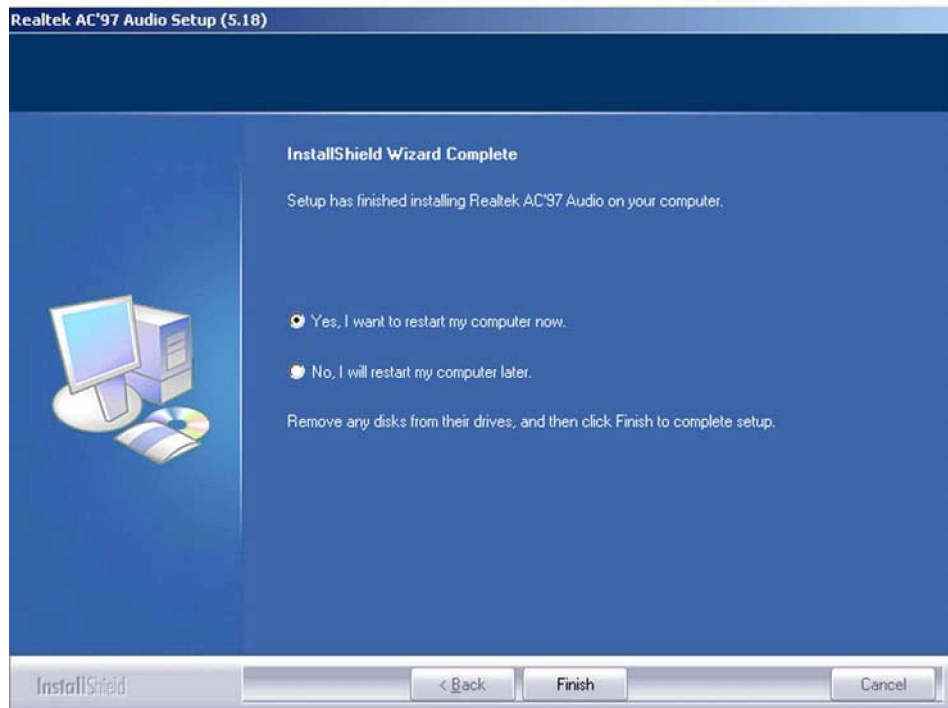

Figure 6-12: Audio Driver Installation Complete
Step 7: After the driver installation process is complete, a confirmation screen shown in **Figure 6-12** appears
- Step 8:** The confirmation screen shown in **Figure 6-12** allows the computer to be restarted immediately after the installation is complete or at a later time. For the settings to take effect the computer must be restarted. Decide when to restart the computer and click the “**FINISH**” button. **Step 0:**